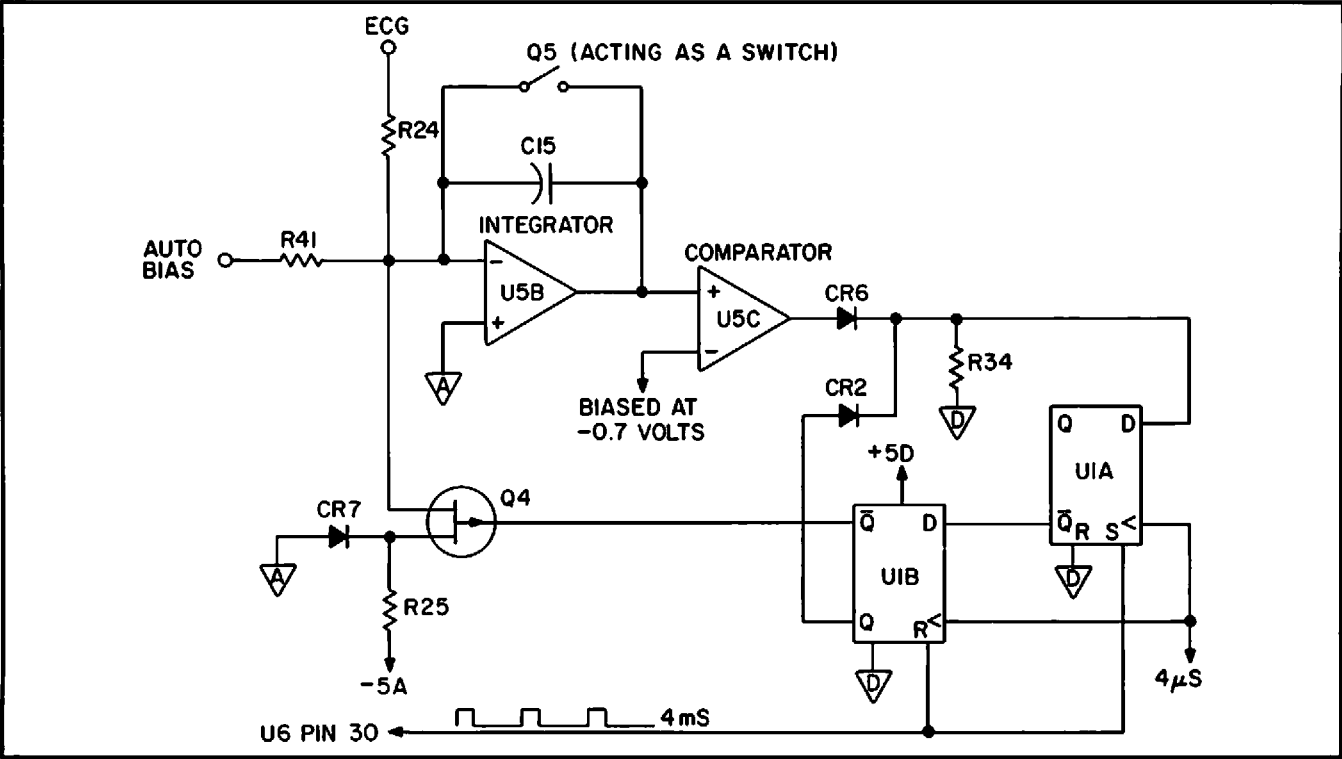

Figure 2-14
2.3.3.4 Voltage to Frequency Converter (V/F) (Fig. 2-14)